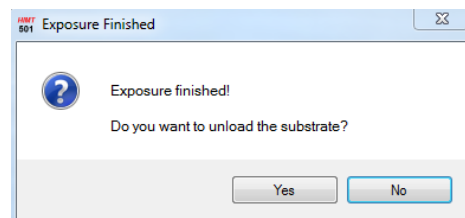

Figure 19: A pop-up window signifying that the exposure is finished.
7. Once the exposure is completed, a pop-up window will appear saying that the job is complete (Figure 19). Click ‘Yes’ and wait for the unloading. Click on Unload and wait until all movement has stopped. At this point, open the cover, unclamp the mask and carefully remove it being certain not to make contact with the lens. Once finished, close the lid to the mask maker and leave the computer as is.